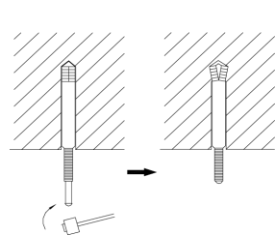

Fig. 4.4
- (2). Insert the anchor bolts into the drilled holes, and drive the pins completely into the anchor bolts with a hammer. (Fig. 4.4)